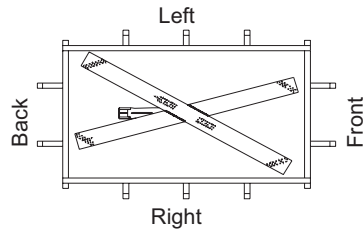
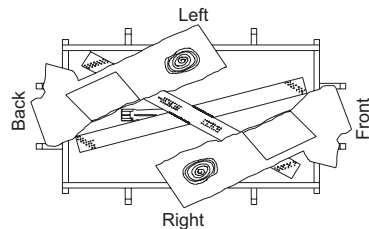

Figure 48 - Burner and Grate (Top View)
Figure 49 - Installing Logs "A" (Top View)
5. Figure 48 shows the top view of burner and grate. Place logs "A" as shown in Figure 49.
7. Place logs "A" as shown in Figure 49.